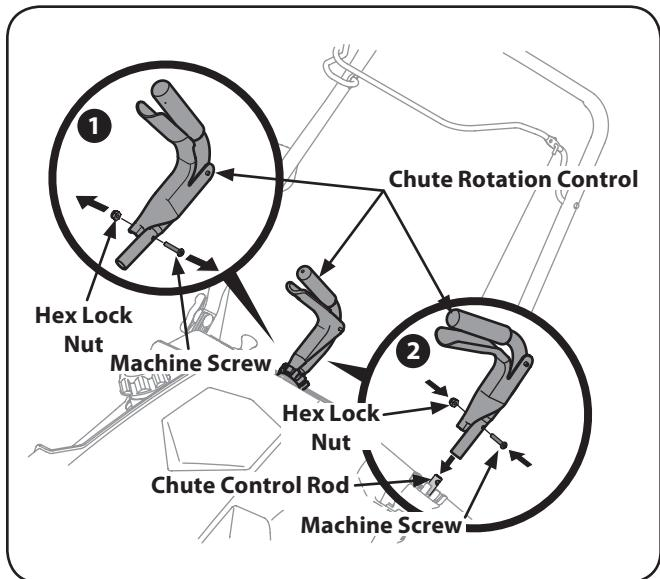

**Figure 3-4**
- Align the holes in the chute base with the holes in the lower chute and secure with the previously removed hex washer screws. See Fig. 3-4.